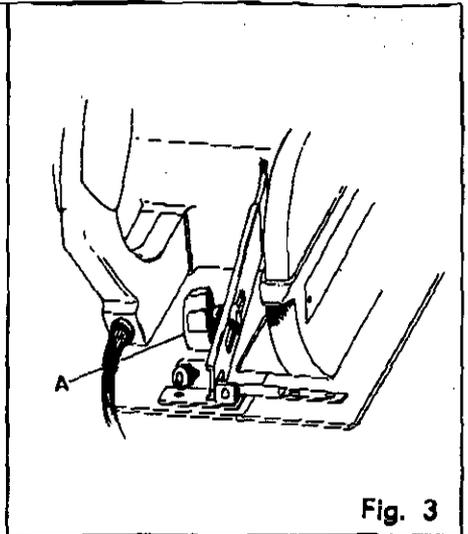
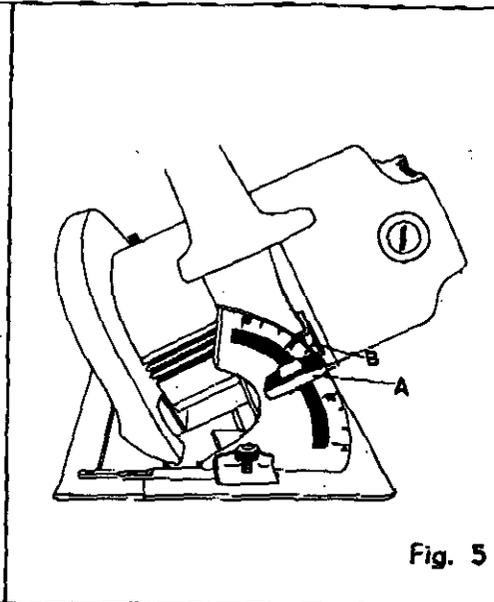

Fig. 3
Fig. 5
DEPTH OF CUT—Correct depth adjustment should permit only one tooth of the blade to project below the material to be cut. (For carbide tipped blades, only $\frac{1}{2}$ of a tooth.) Depth adjustment should allow only the minimum blade exposure beyond maximum thickness of material to be cut. More depth will only increase friction and make for a rough cut. To adjust depth of cut (See Fig. 3) loosen knob (A), grasp handle, hold rear of base against flat surface and raise unit until required depth is reached. Tighten knob to lock. A setting approximately $\frac{1}{8}$ inch deeper than thickness of material to be cut is recommended for best performance. Depth setting should be at maximum depth when performing blade installation or change-over.
TO BEVEL CUT—True angle of cut may be adjusted to any desired setting between 0° and 45° . (See Fig. 5) **IMPORTANT—BE SURE POWER CORD IS DISCONNECTED FROM POWER SUPPLY.** Loosen knobs and adjust base so that index mark (B) is at 0° . Tighten knob (A) (See Fig. 5). Set desired depth of cut and tighten knob (A) (See Fig. 3). Set index mark (B) in line with required angle setting on bevel scale and tighten knob (A) (See Fig. 5). After setting at required angle make a trial cut in scrap material along a guide line to determine how much if any guide line must be offset to produce desirable cut.